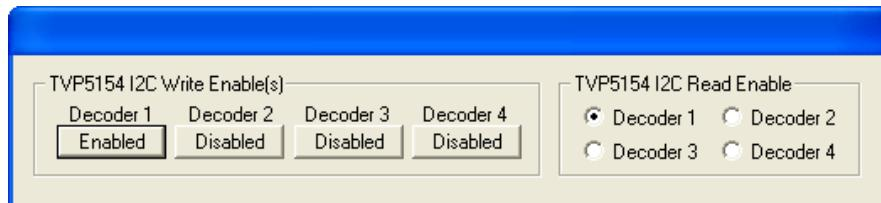

Figure 6. Decoder I²C Write and Read Enable
6. The TVP5154 I²C Write Enable(s) and Read Enable pop-up window is displayed as shown in Figure 6. This is used to select which decoder or decoders (any combination of all four) will receive I²C Write commands, and which decoder (only one) will receive I²C Read commands. Decoder 1 is Enabled by default; enable the other three decoders by clicking on each decoder's enable button.